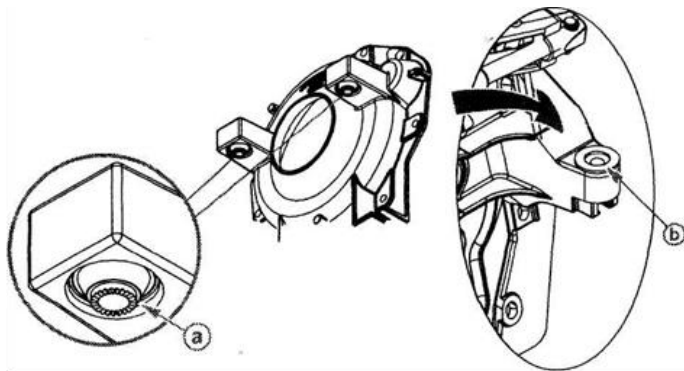

Figure 11 - Engine bell for Mercruiser Bravo® stern drive
1. Make sure that the engine bell contains the rubber bushes needed to couple with the transom supports. The bushings are shown in the image of Figure 11 with the letter a.
2. Always use fibre washers (indicated by the letter b in Figure 11) between the engine bell and transom.